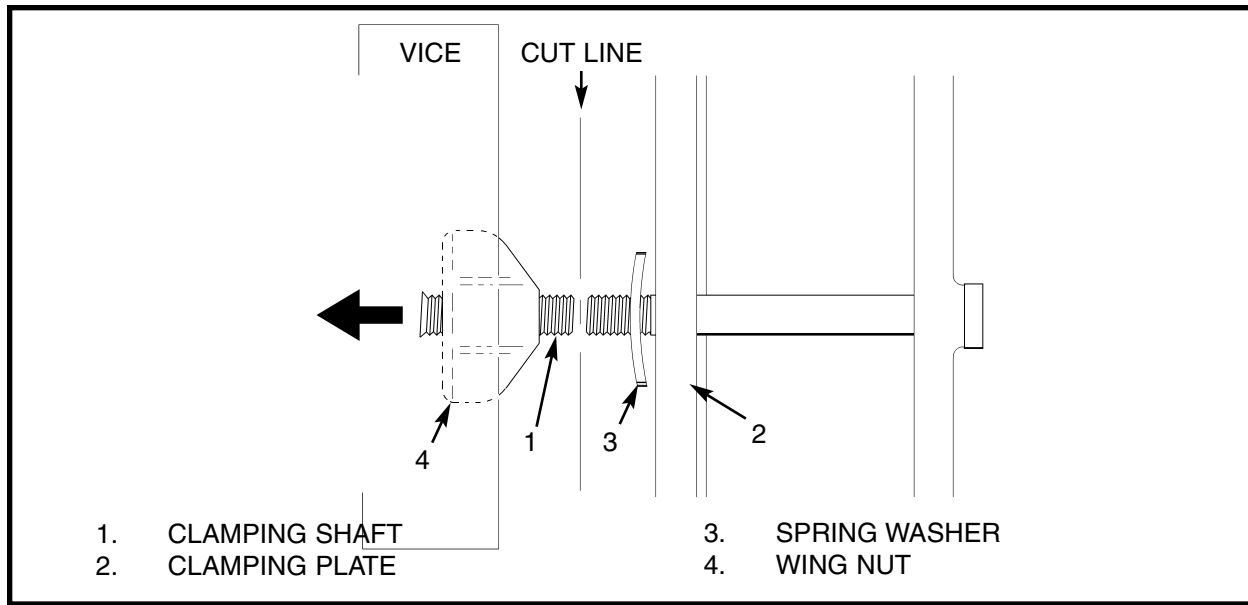

Figure 3-2-68 Removing the Wing Nuts from the DIS
- f. To remove the wing nuts, refer to figure 3-2-68 and proceed as follows:
- (1) Unscrew the wing nut as far as allowed by the staking;
- (2) Secure the sight body in a vice and cut the clamping shaft (1), through the threaded section, with a hacksaw;